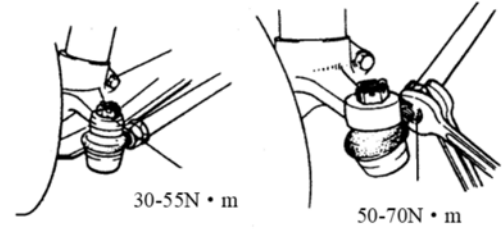

Fig.3.6-11
- 2) Connect the steering cross pull rod to the steering knuckle. Screw the groove type nut to the specified torque range. Please refer to Fig. 3.6-11.